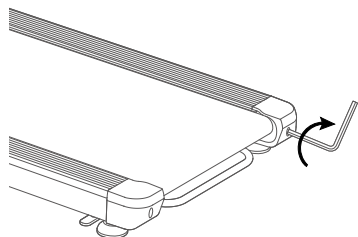

Figure 2
- If the walk belt has shifted to right, use the **hex tool** to turn the right idler roller screw clockwise **1/4** of turn(refer to figure 2).